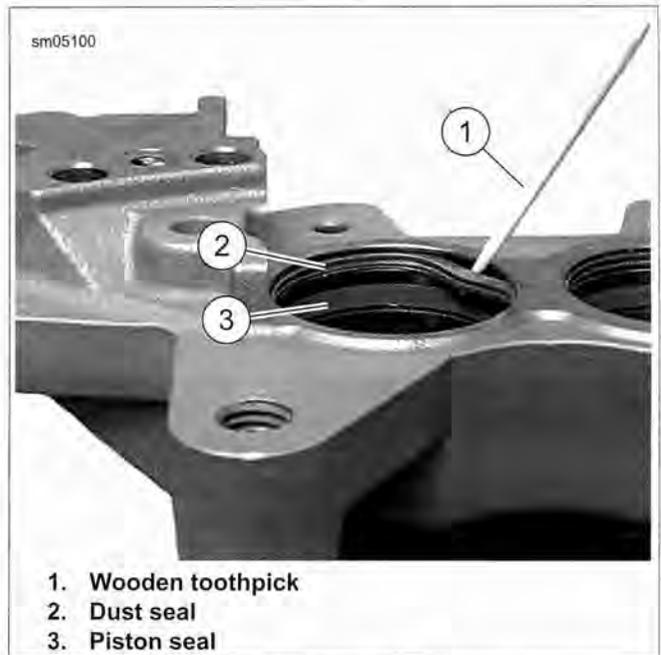

Figure 2-68. Caliper Seals
- See Figure 2-68. Using a wooden toothpick (1), remove dust seal (2) and piston seal (3) from each caliper bore. Discard seals.
2. See Figure 2-68. Install a **new** piston seal (3) and a **new** dust seal (2) into each piston bore.